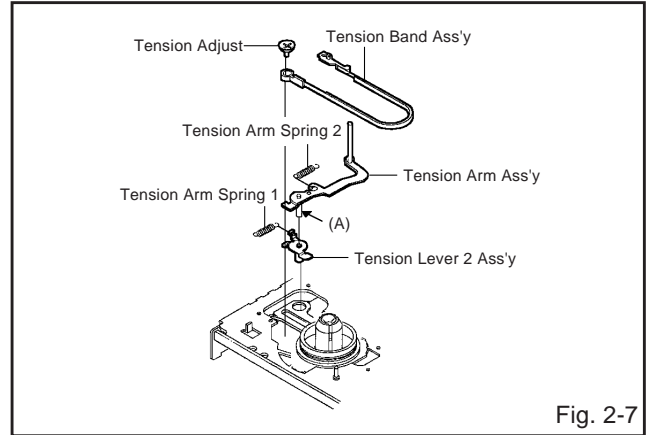

Fig. 2-7
2-7: TENSION BAND (Refer to Fig. 2-7)
2. Turbine Oil the area marked with A in Fig. 2-7.